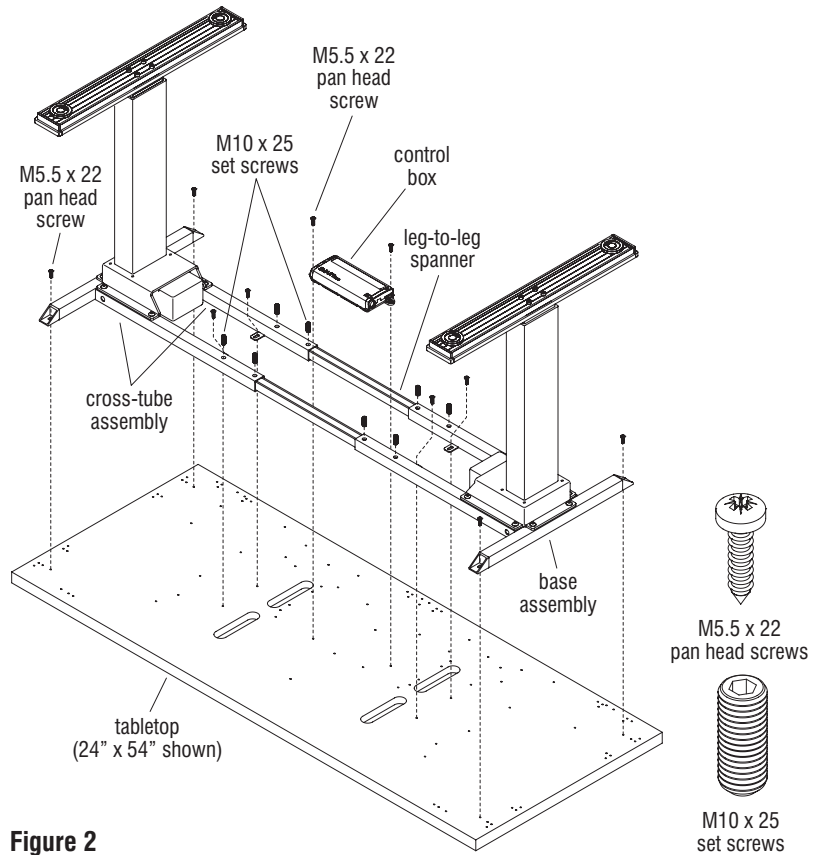

Figure 2
1. Carefully turn tabletop upside down on a soft, protective surface and set the base assembly onto the underside of the tabletop. Position one base end, so base mounting holes align with tabletop mounting holes, and secure base to tabletop using four M5.5 x 22 pan head screws. Slide the other base end into position to align base mounting holes to the tabletop holes and secure with four M5.5 x 22 pan head screws. Insert and tighten eight M10 x 25 set screws as illustrated, through the cross-support tubes and down to the leg-to-leg spanners. Torque to 4.5 ft/lb to secure (Figure 2).
2. The control box may be mounted to the underside of the tabletop, either at the center of the base assembly between the cross-tube assemblies (Figure 2), or at one of three mounting locations behind the base assembly if the table is 30-36" deep (Figure 3). Position the control box over the pre-drilled mounting holes and secure using two M5.5 x 22 pan head screws (Figures 2 & 3).